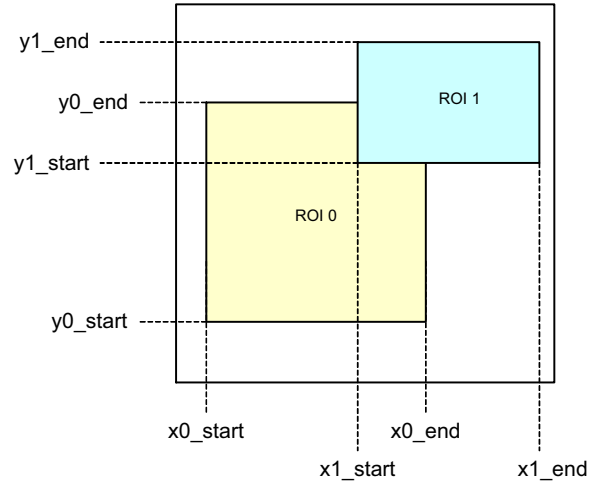

Figure 25. Overlapping Multiple Window Configuration
- Up to eight windows can be defined, possibly (partially) overlapping, as illustrated in Figure 25.